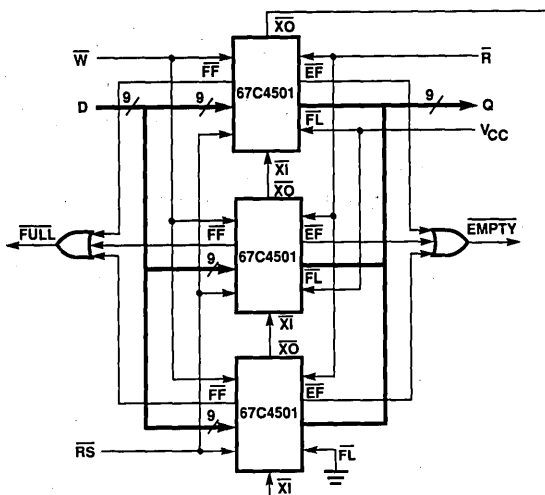

Figure 12. Depth-Expansion to Form a 1536x9 FIFO
1.  $\overline{XI}$  is connected to  $\overline{X0}$  of previous device. See Figure 12.
Depth-Expansion Mode is configured during the Reset cycle. (See Figure 12 and Table 2.) Expansion Out ( $\overline{XO}$ ) of one device must be connected to Expansion In ( $\overline{XI}$ ) of the next device, with  $\overline{XO}$  of the last device being connected to  $\overline{XI}$  of the first device. The device that is to receive data first has its First Load ( $\overline{FL}$ ) input tied LOW, while all other devices must have this input HIGH. Write and read control is passed between devices using  $\overline{XO}$  and  $\overline{XI}$ . A LOW-going pulse on  $\overline{XO}$  occurs when the last physical location, address 511, of an active device is written to, and another LOW-going pulse occurs when the last physical location of an active device is read. Only one device is enabled for writes, and only one device is enabled for reads at any given time.